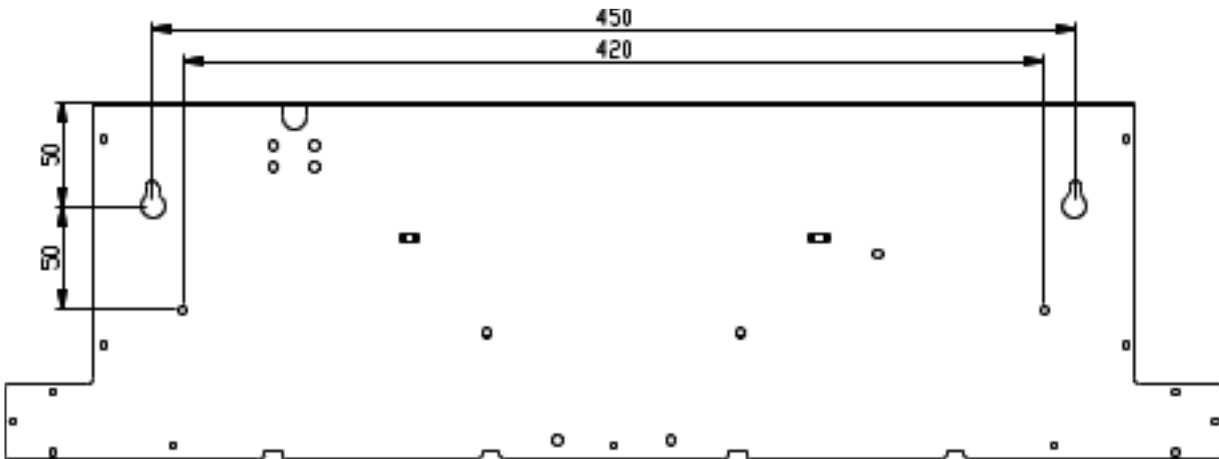

Figure 7
- Drill 4 holes of $\text{Ø}8\text{mm}$ on the wall, as illustrated below (Figure 7).